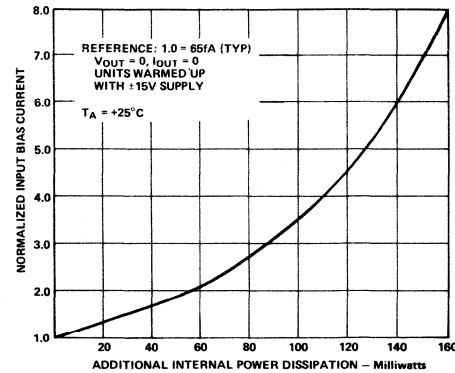

Figure 9. Input Bias Current Versus Additional Power Dissipation
3. Output loading effects, which are normally ignored, can cause a significant increase in chip temperature and therefore bias current. For example, a  $2\text{k}\Omega$  load driven at 10 volts at the output will cause at least an additional 25 milliwatts dissipation in the output stage (and some in other stages) over the typical 24 milliwatts, thereby at least doubling the effects of self-heating. The results of this form of additional power dissipation are demonstrated in Figure 9, which shows normalized input bias current versus additional power dissipated. Therefore, although many DC performance parameters are specified driving a  $2\text{k}\Omega$  load, to reduce this additional dissipation, we recommend restricting the load impedance to be at least  $10\text{k}\Omega$ .